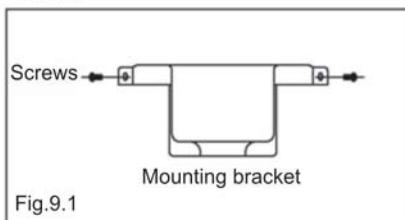

Fig.9.1
1. Put 2 screws in the hanger bracket. Leaving them partially out. (Fig. 9.1).